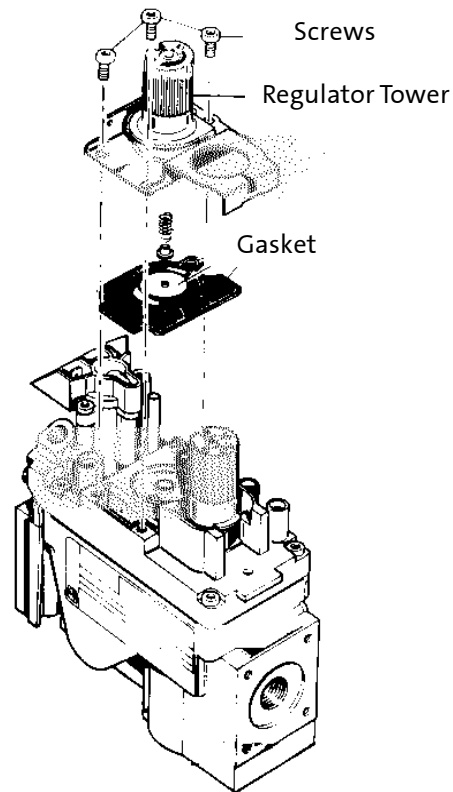

Figure 14. Regulator Tower and gasket.
12. Replace the Variable Regulator: Using a Torx T-20 screwdriver, remove the three specialty screws from the front of the valve regulator. See Fig. 14.
15. Reinstall the Burner Tube (13, pg. 22), Air Divider (15), Log Support (14), and Log Set. **WHEN REINSTALLING THE BURNER TUBE, BE SURE THE TUBE IS PULLED FORWARD IN THE MOUNTING HOLES. SECURE WITH THE TWO 1/4" SCREWS.**